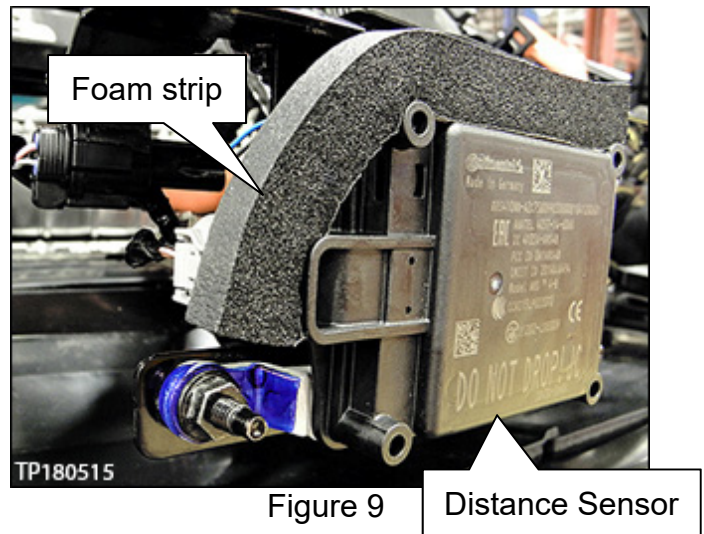

Figure 9
- d. Fold the Foam strip down the left side of the Distance Sensor and attach where shown in Figure 9.